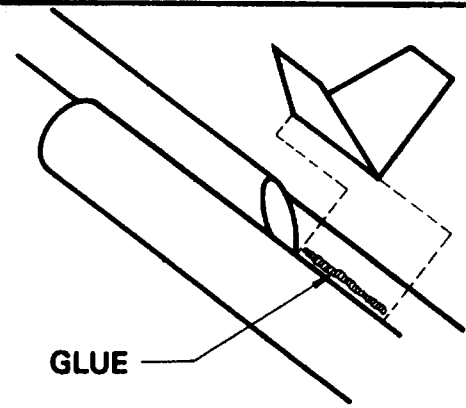

Fig. 10
11. When the forward fins have dried, glue them into place, positioned immediately behind the Forward Tube. The forward fins should be aligned so that each fin tip is the same height above the work surface. Set aside to dry. (Fig. 10).